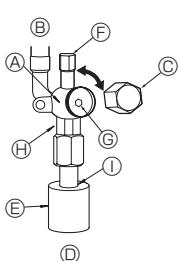

Fig. 4-6
② Make sure that the stop valve is open completely and rotate the cap back to its original position.
(2) Liquid side (Fig. 4-6)
- ① Remove the cap and turn the valve rod counterclockwise as far as it will go with the use of a 4 mm hexagonal wrench. Stop turning when it hits the stopper.